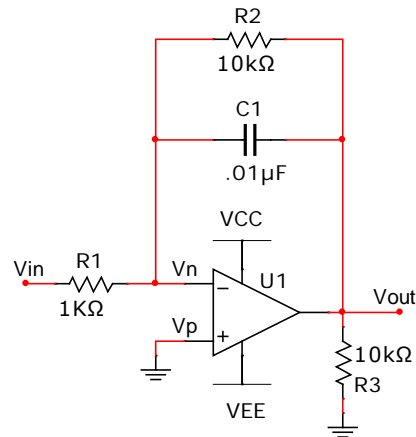
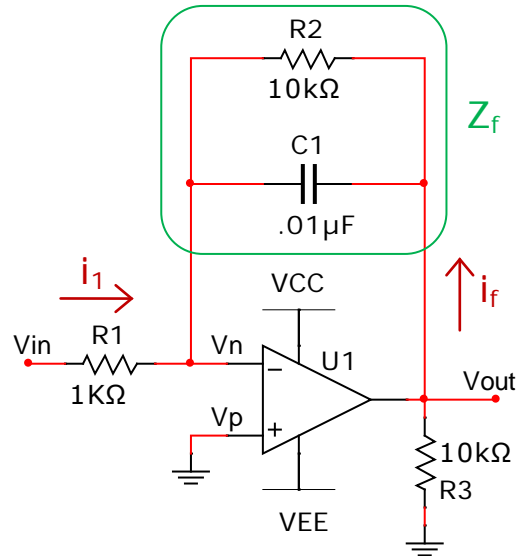

Figure 5. Low-pass filter.
Figure 16. Low-pass filter.
- Analyze the low-pass filter circuit in figure 16 (same as figure 5) to show that for  $V_{in}(t) = A\cos(\omega t)$ :